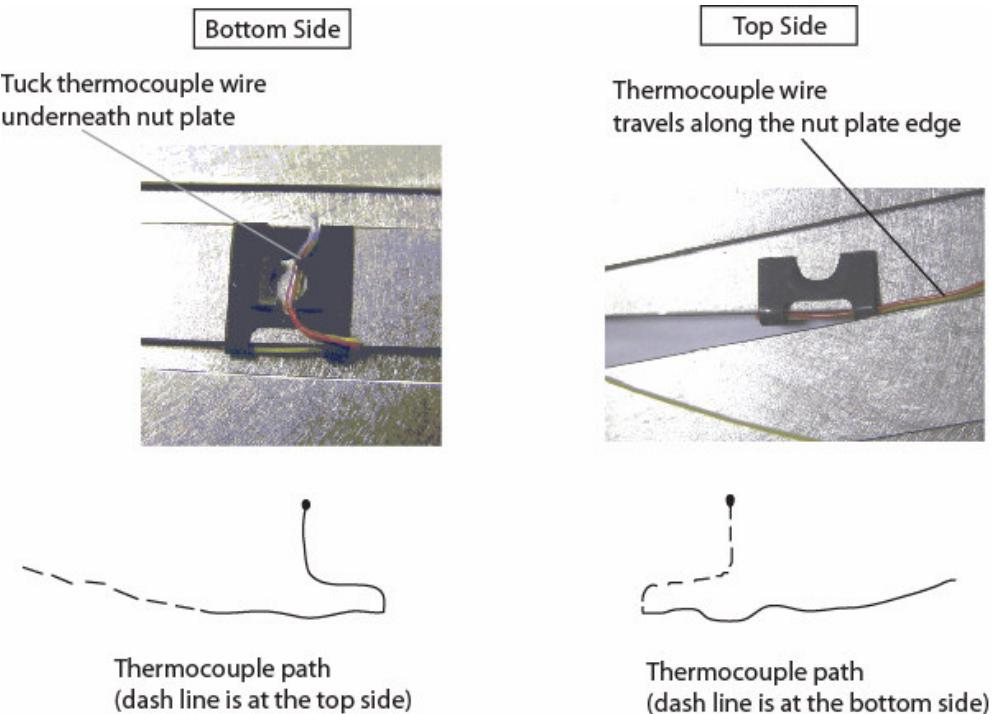

Figure 11. Thermocouple tip on a nut plate
4. When measuring band temperature, fasten the thermocouple tip to a nut plate. Route the thermocouple tip as shown in Figure 11 and fasten the nut plate at the desired location on TC-Bridge member.